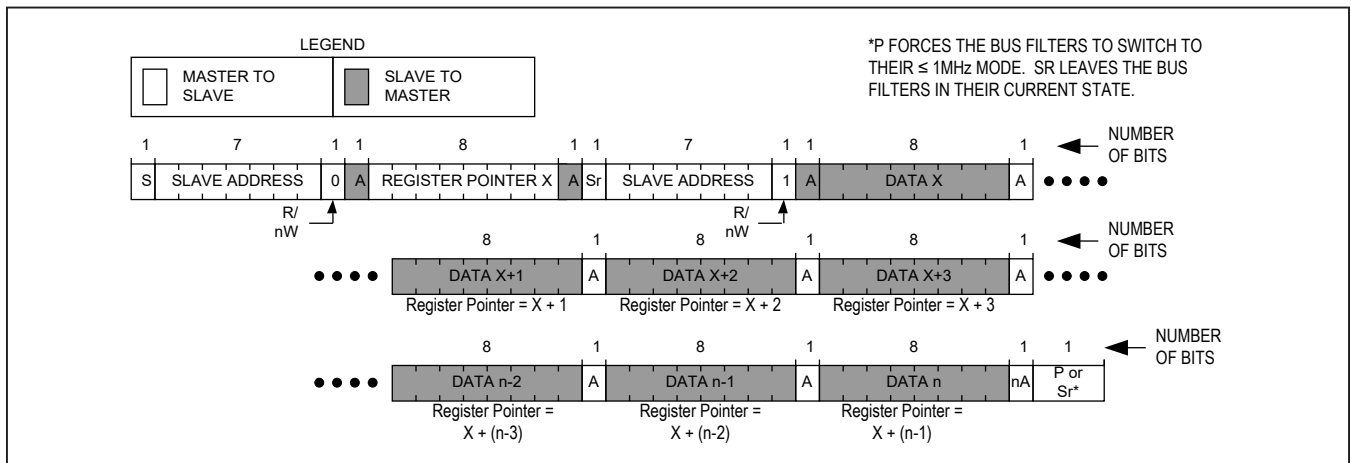

Figure 11. Reading Continuously from Sequential Registers
Figure 11 shows the protocol for reading from sequential registers. This protocol is similar to the “Read Byte” protocol except the master issues an ACKNOWLEDGE (A) to signal